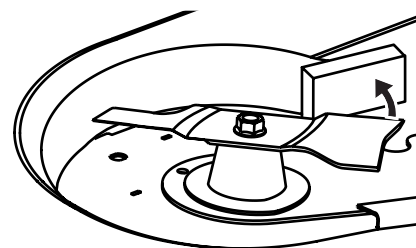

Figure 57
1. Secure the blade from turning counter-clockwise during service by placing a block of wood between the blade and the deck housing, see Figure 57, or wrap a rag around one end of the blade and wear heavy gloves to grasp the blade firmly.